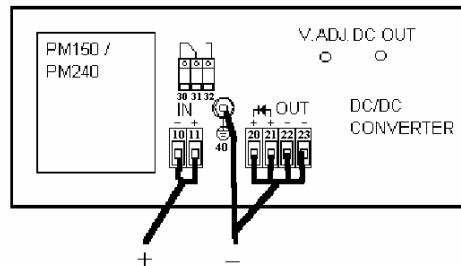

Figure 7. Input to output and input to case isolation voltage test.
4. Connect your isolation tester between input and case. See *Figure 7*. Raise the voltage of the isolation tester from 0 to 4000Vd.c. Check that the leakage current does not exceed 5 $\mu$ A. The voltage should not be applied for more than a few seconds or the Y-capacitors might be damaged.
2. Connect the output terminals of the converter to case. See *Figure 7*.
4. Connect your isolation tester between input and case. See *Figure 7*. Raise the voltage of the isolation tester from 0 to 2500Va.c. The voltage should not be applied for more than one (1) minute or the Y-capacitors might be damaged.